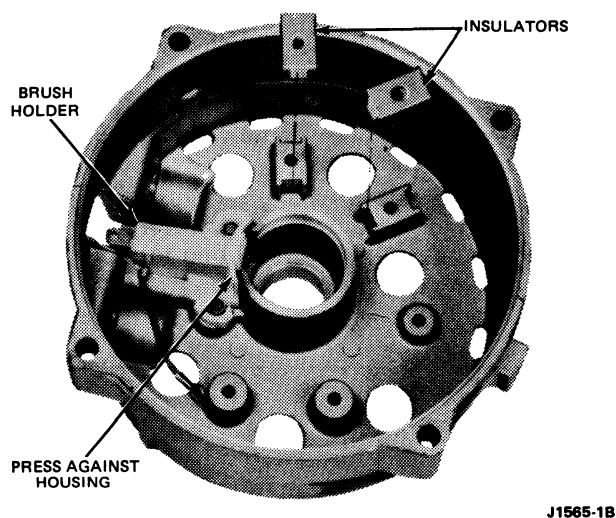

FIG. 8 Brush Holder and Rectifier Insulators Installed
13. Remove the two rectifier insulators from the bosses in the housing (Fig. 8).
8. Place the two (rectifier) insulators on the bosses inside the housing (Fig. 8).
8. Remove the two insulators from the housing (Fig. 8).
2. Place the two rectifier insulators on the bosses inside the housing (Fig. 8).